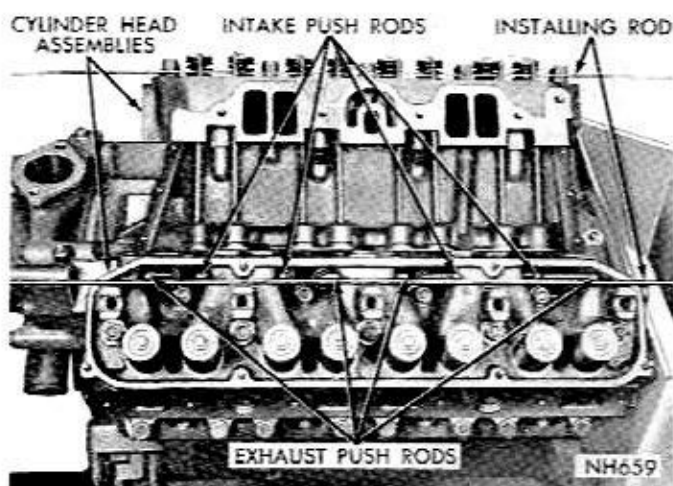
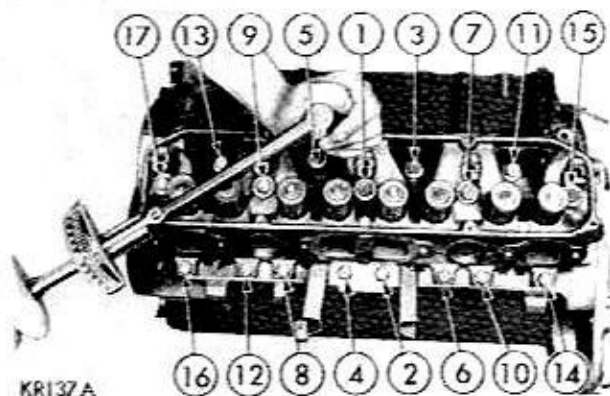

Fig. 7—Push Rods Installed
Fig. 6—Cylinder Head Tightening Sequence
- (1) Clean gasket surfaces of the cylinder block and cylinder head. Remove all burrs from edges of cylinder heads.
- (2) Inspect all surfaces with a straightedge if there is any reason to suspect leakage. If out of flatness exceeds .00075 times the span length in any direction; either replace head or lightly machine the head gasket surface. As an example, if a 12 inch span is .004" out of flat, allowable is $12 \times .00075 = .009$ ". Head is OK.
- (3) Coat new gaskets lightly with a suitable sealer, Chrysler Number 1057794 or equivalent. Install gaskets and cylinder heads.
- (4) Install cylinder head bolts. Starting at top center, tighten all cylinder head bolts to 40 foot-pounds in sequence (Fig. 6). Repeat the procedure, tightening all head bolts to 70 foot-pounds.
- (5) Inspect push rods and replace any worn or bent rods.
- (6) Install push rods in the tappets maintaining alignment, using rod, (Fig. 7).